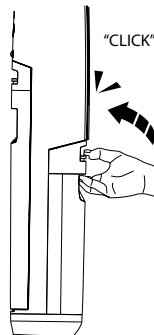

Fig 7
3. Align the bottom of the clean water tank with the unit and gently push it in until you hear a "CLICK" sound (Fig 7).